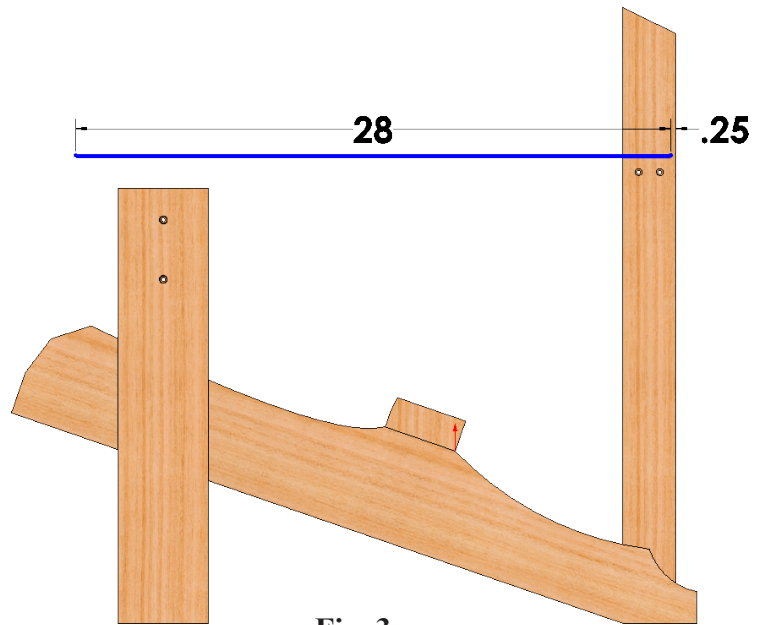

Fig. 3
Step 9. Dimension line, **Fig. 3**.